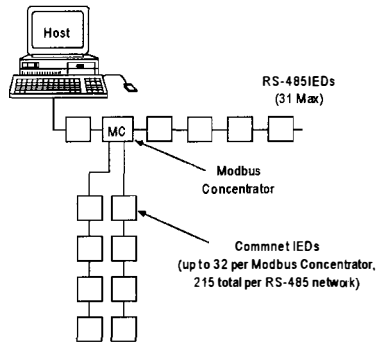

Figure 10. Network illustrating Modbus Rule 6.
- A single RS-485 network may have up to 215 commnet IEDs attached to it via POWER LEADER Modbus Concentrators. Figure 10 illustrates this rule.